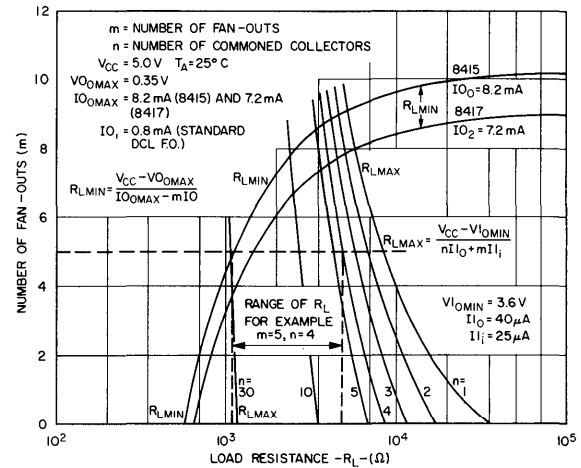

Figure 4-15 — Allowed Values of R_L for the 8415 and 8417
3. Knowledge of the range of possible values of R_L for any combination of commoned collectors and total fan-outs (F.O.'s) is of extreme importance in any collector logic oriented system. Figures 4-15 through -17 for the bare collector gates 8415/17, the 8471/81 and the 8881, respectively, will enable the system designer to choose R_L for any combination of commoned collectors, number of fan-outs, speed and power consumption.
To use the curves in Figures 4-15 through -17, draw a horizontal line out from the vertical axis at the level of the required number of fan-outs (m). Extend the line until it intersects the $R_{L \text{ MAX}}$ line for the required number of commoned collectors (n). The line will also intersect the $R_{L \text{ MIN}}$ curve. Drop a vertical from where it intersects the $R_{L \text{ MIN}}$ curve and another from where it intersects the $R_{L \text{ MAX}}$ curve. The range of values between these verticals on the Load Resistor axis is the full range of R_L for those n and m values. (Example: for the 8415, Figure 4-15, if $m = 5$ and $n = 4$, R_L ranges from 1.1 K Ω to 4.9 K Ω .)